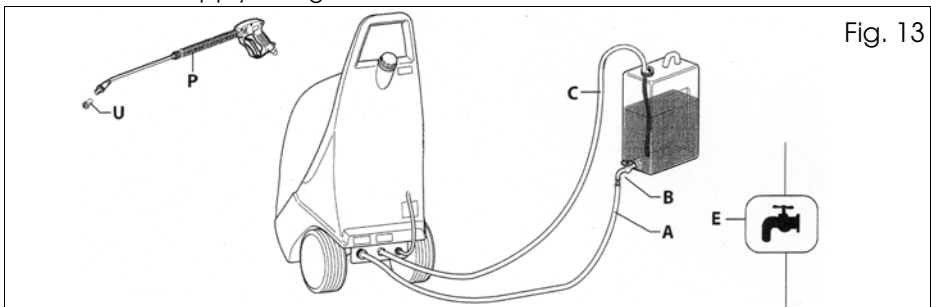

Fig. 13
CLEANING THE INSIDE OF THE HEATING COIL (FIG. 13)
2. Connect the inlet hose (A) to the tap (B) of the container. See fig. 13.
3. Place the end of the high pressure hose (C) in the container.
5. After cleaning, disconnect the hose (A) from the tap (B) and connect it to the mains water tap (E). See fig. 13.
6. Remove the end of the high pressure hose (C) from the container and connect it to the gun (P). See fig. 13.
7. Remove the nozzle (U) from the lance (P), turn on the mains water tap (E). Operate the power washer with the lance with no nozzle fitted until the water flowing from the hose runs clear.
8. Replace the nozzle (U) on the lance and dispose of the water in the container.